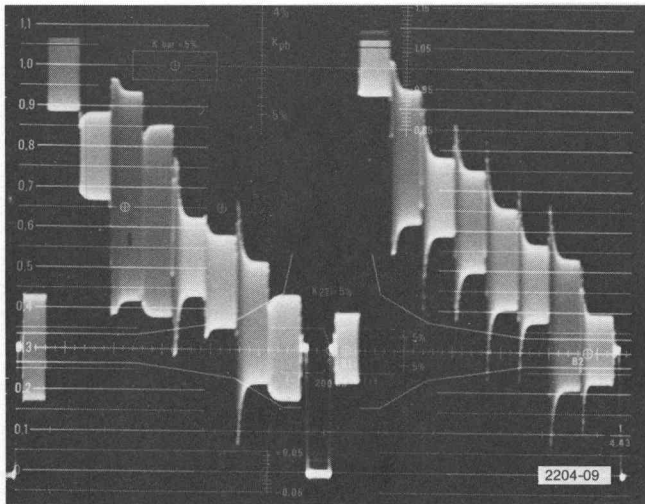

Fig. 1-9. Color Bar display 2 lines.
4. CHROMA SEQUENCE: Set the waveform monitor for a 2-line display (10 μ s/DIV), see Fig. 1-9.